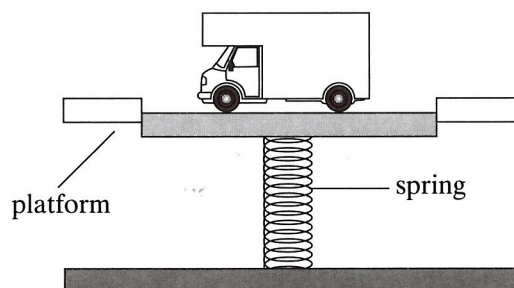

Figure 1
- 2 **Figure 1** shows a lorry of mass $1.2 \times 10^3 \text{ kg}$ parked on a platform used to weigh vehicles. The lorry compresses the spring that supports the platform by 0.030 m.